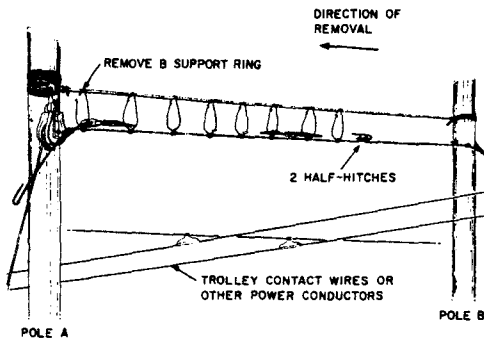

Fig. 3—Pulling Guy Through Support Rings
(6) Detach guy from Pole B and with the ring and drag rope throw two half hitches around guy strand near the end as illustrated in Fig. 3.
(7) From the ground at Pole A, pull on the ring and drag rope to slide the rings along the support rope, holding sufficient tension at Pole B to prevent rings pulling together and the guy sagging onto power wires. As the rings reach the snatch block, a workman stationed on Pole B should remove them, allowing the guy to pass freely below the block. Continue in this manner until guy has been completely removed from the crossing span.